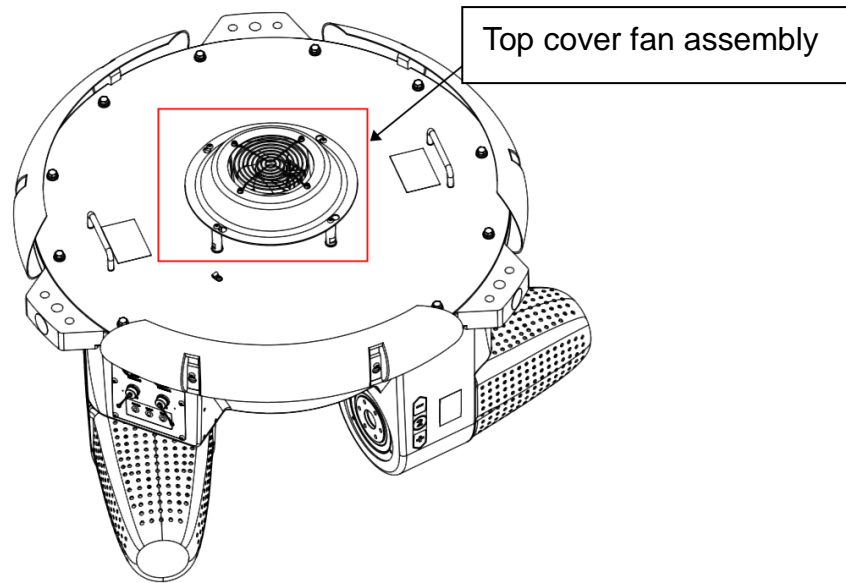

Figure 4-26 Schematic diagram of the location of the top cover fan assembly
Step 3 Use an Allen wrench to remove and remove the two screws securing the brake plate, as shown in Figure 4-26.